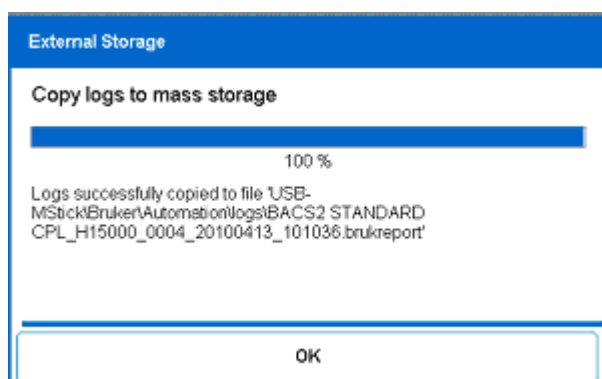

Figure 10.10 Export Device Report
4. When the process is finished write down the name and the path of the log file (Figure 10.10).